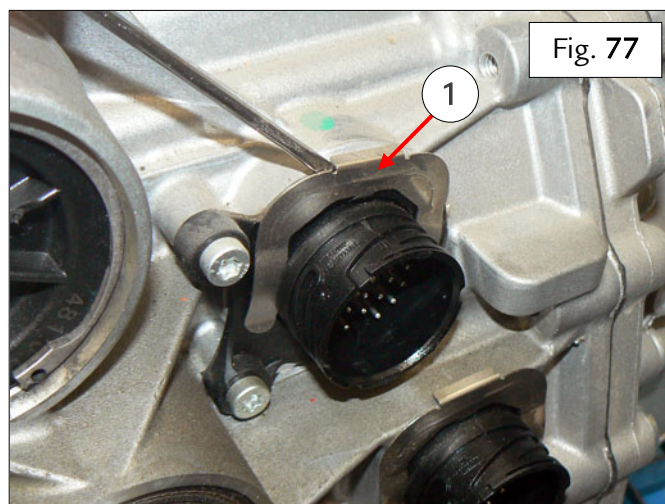

Fig. 77
- Fit the new retainer clip (1) onto the connector to fasten – Fig. 77.